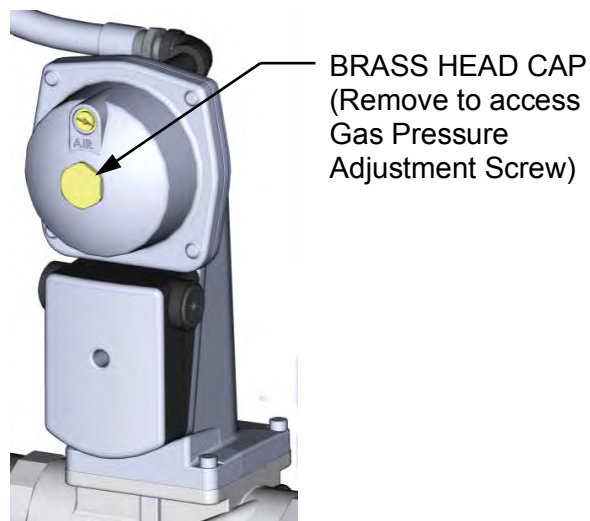

Figure 4-3: Gas Pressure Adjustment Screw Location
10. Next, verify that the gas pressure downstream of the SSOV is set to **2.0 ± 0.4" W.C. (498 ± 100 Pa)**. If gas pressure adjustment is required, remove the brass hex nut on the SSOV actuator to access the gas pressure adjustment screw (Figure 4-3). Make gas pressure adjustments using a flat-tip screwdriver to obtain a gas pressure of **2.0" W.C. ± 0.4" W.C. (498 ± 100 Pa)**.
15. If the oxygen level is not within the required tolerance, the gas pressure on the downstream side of the SSOV must be adjusted using the gas pressure adjustment screw on the SSOV (Figure 4-3). Slowly rotate the gas pressure adjustment (approximately 1/4-turn increments). Allow the combustion analyzer to stabilize following each adjustment. Clockwise rotation reduces the oxygen level, while counterclockwise rotation increases the oxygen level.
If gas pressure adjustment is required, remove the brass hex nut on the SSOV actuator to access the gas pressure adjustment screw (Figure 4-3, above). Make gas pressure adjustments using a flat-tip screwdriver to obtain the gas pressure listed above.
15. If the oxygen level is not within the required tolerance, the gas pressure on the downstream side of the SSOV must be adjusted using the gas pressure adjustment screw on the SSOV (Figure 4-3, above). Slowly rotate the gas pressure adjustment (approximately 1/4-turn increments). Allow the combustion analyzer to stabilize following each adjustment. Clockwise rotation reduces the oxygen level, while counterclockwise rotation increases the oxygen level.